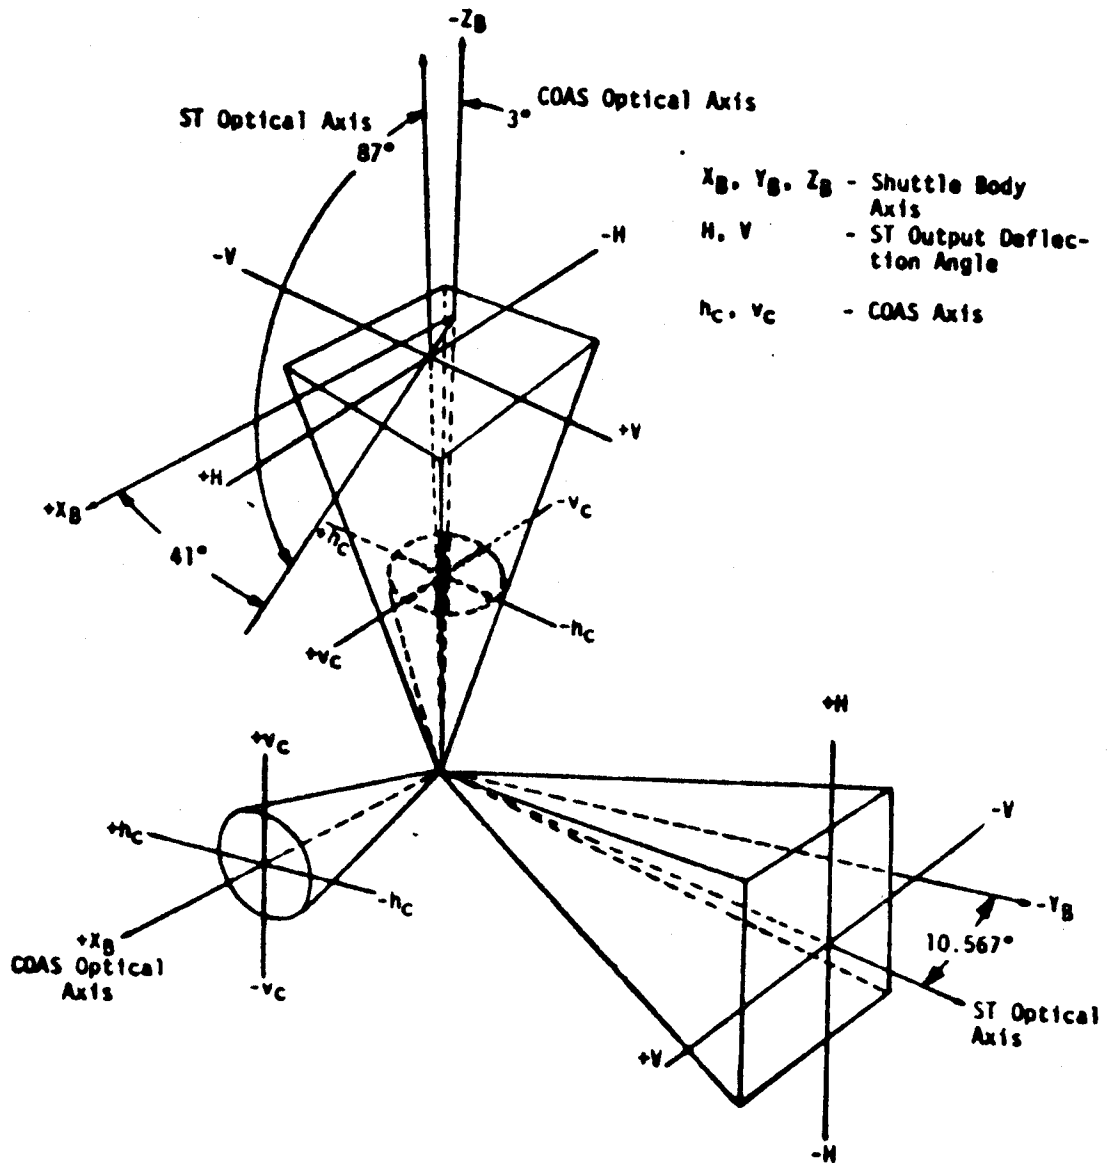

Figure 4-2. Coordinate System
A right-hand orthogonal system consisting of horizontal (H), vertical (V), and boresight axes is used in the Star Tracker (see figure 4-2). The plane of the H and V axes is coplanar with the front face of the Star Tracker. The -Z Star Tracker is mounted such that the +V axis lies in approximately the same direction as the -Y Shuttle body coordinate axis, and the +H axis lies in approximately the same direction as the +X Shuttle body coordinate axis. These coordinates correspond to those displayed on SPEC 22 for -Z COAS use.